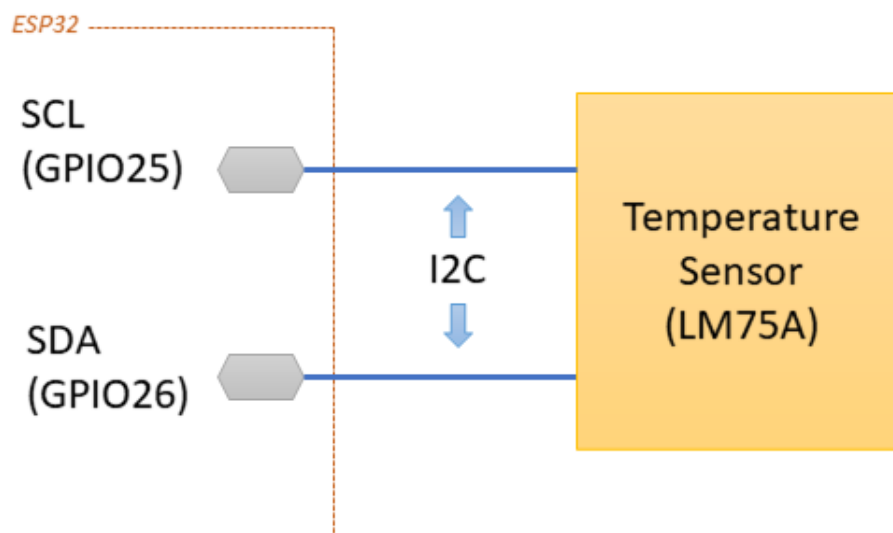

FIGURE 1.1 – Temperature sensor connections.
4. Wiring the sensor as shown in the figure 1.1.